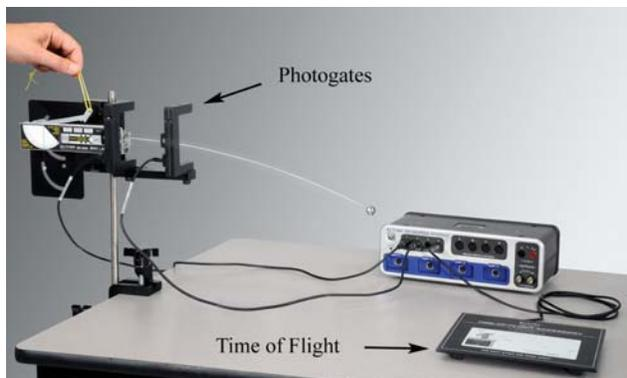

Figure 1: Measuring the time of flight for a horizontal launch.
In this section, the ball is launched horizontally from a height above the table, as shown in Figure 1 on the first page.
10. Attach the Photogates to the Photogate Bracket, and slide the bracket into the T-slot on the bottom of the launcher as shown in Figure 15. You want to position the photogates to be as close to the launcher as possible. Plug the first Photogate into Digital Input #1 and the second Photogate into Digital Input #2, as shown in Figure 1.